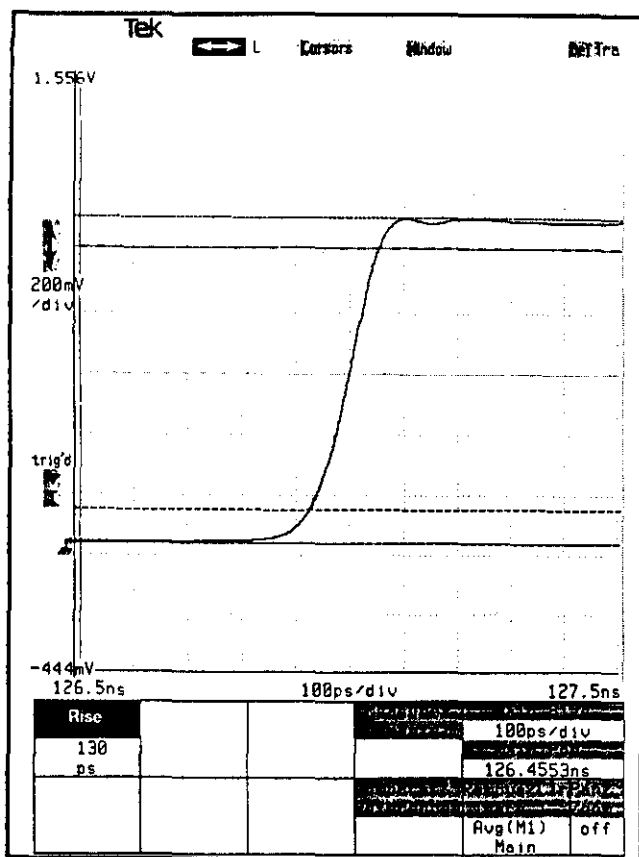

Fig. 4-1. Measurement of step 2 risetime.
- CHECK — that the risetime is less than or equal to 150 ps. Read the measured risetime below the Rise block on the 11801. See Fig. 4-1.